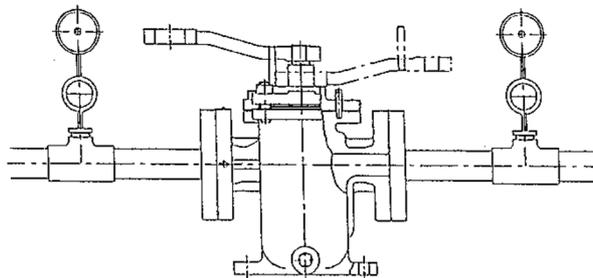

Fig. 3
13. Installing pressure gauges at inlet and outlet side may help to detect the clogging condition of the screen (4.1 example of piping<Figure 3>).